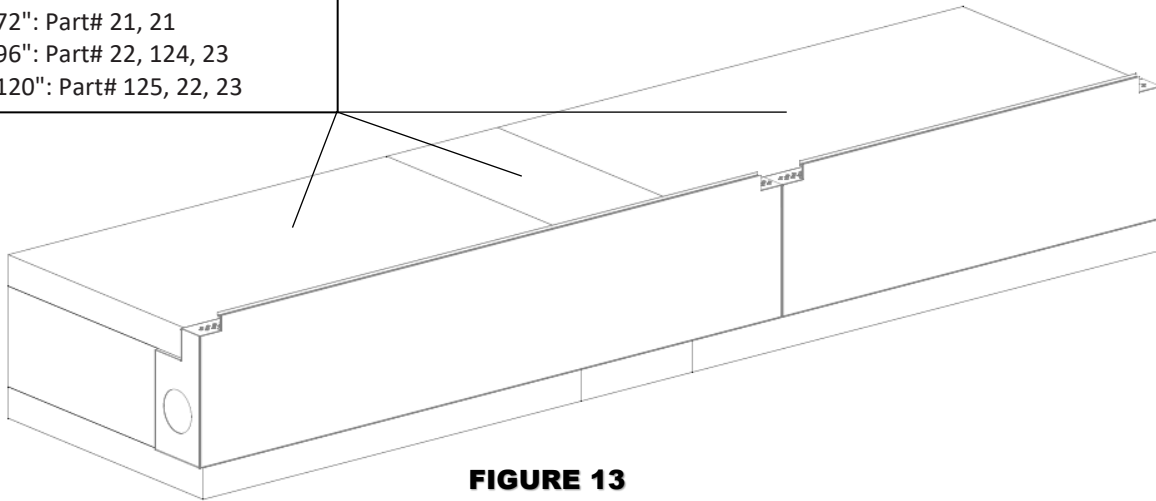

FIGURE 13
4) Place the next layer of baseplates from the Glass Front Kit, GFK. These baseplates should rest on the previous layer of back and sidewalls, with the front of the baseplates resting atop and flush with the Air Collector Box shelf. **(Figure 13).**